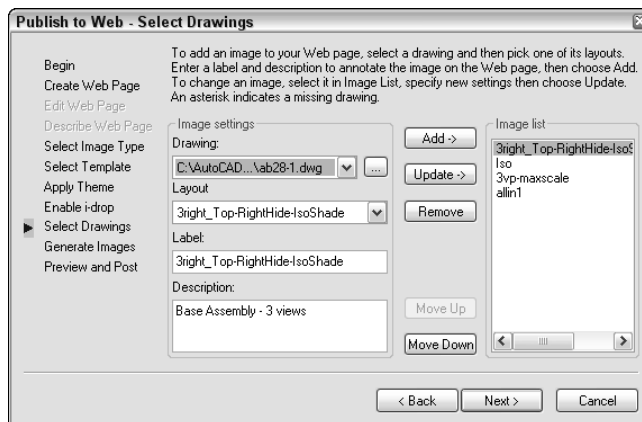

**Figure 28-10:** On the Select Drawings screen, add each drawing that you want to include on the Web page, and specify a layout, label, and description for each.
8. On the Select Drawings screen, shown in Figure 28-10, choose the drawings that you want to publish. If the drawing is open, you can select it from the Drawing drop-down list. Select each drawing, choose a layout (or model) from the Layout drop-down list, type a label, and type a description to appear on the Web page. Then click Add. (If the drawing is not open, click the ellipsis button, navigate to the drawing, and click Open. Enter a label and description and then click Add.) Click Next.